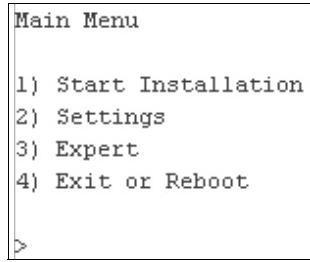

Figure 9-12 Main Menu
If everything is set up correctly, the system connects using DHCP to the TFTP service to start loading the boot image for the first stage of the install. In a couple of minutes the Main Menu panel appears, as shown in Figure 9-12 on page 377.
- Select **3) Expert**, as shown in Figure 9-12 on page 377.